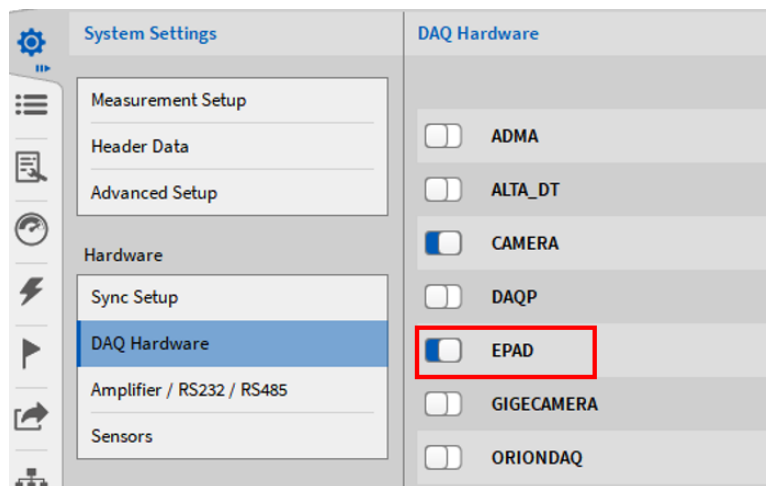

Fig. 4.22: Enabling the EPAD Series in the DAQ Hardware setup
- Select the *DAQ Hardware* section and ensure the slider button next to the EPAD Series is activated (see Fig. 4.22). Changes take effect on application restart.